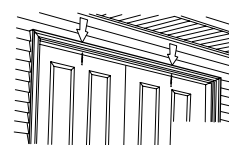

Fig. 11
- If you have a double door unit to install or a door unit with sidelights, some additional fastening is required. Double doors should be fastened through the top of the door jamb into the door header with two 10d finish nails or two #8 x 3" drywall screws (Fig. 11).